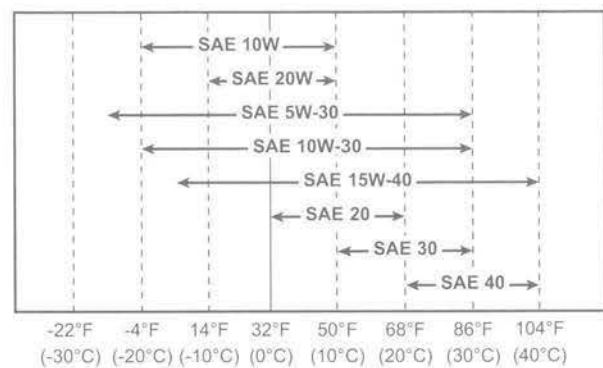

Figure 3
- Select the oil viscosity based on the ambient temperature where the engine is being operated. See the SAE Service Grade Viscosity Chart (Figure 3).
Select the appropriate engine oil viscosity based on the ambient temperature and use the SAE service grade viscosity chart in Figure 3.